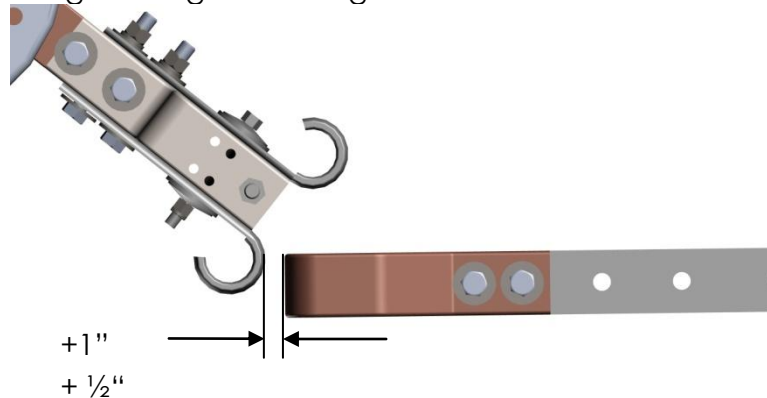

Figure 12: Blade Open Gap
- 4) There should be a small gap, less than one inch, between the female blade contacts and the male blade tip when the female blade assembly is fully open. See Figure 12.